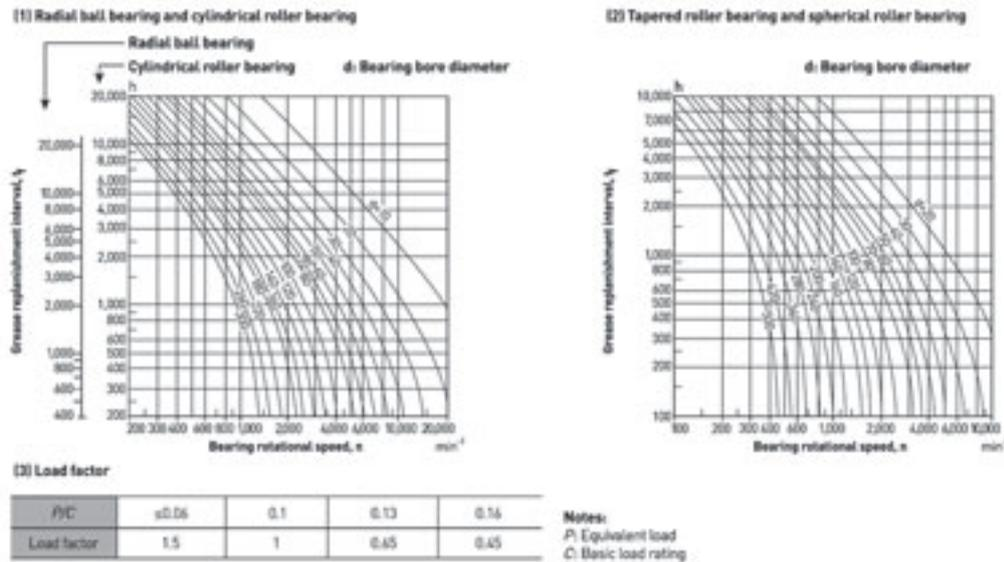

Fig. 1. Grease replenishment intervals \(click to enlarge\)
Over time, grease will deteriorate due to physical and chemical degradation. The reduced lubrication properties will negatively impact bearing performance. Efforts must be made to renew the grease through replenishment. Figure 1 below reflects the replenishment time intervals for various bearing types running at different speeds. Charts (1) and (2) in the figure are applied based on the use of high-quality lithium soap-mineral oil grease, a maximum bearing temperature of 70 C and a normal load ( $P/C = 0.1$ , meaning 10% of the bearing dynamic load rating  $C_r$ ). Replenishment is ONLY an option if the bearings are not sealed and provisions exist in the equipment for adding grease. Shielded bearings must be re-lubricated
Load factor is a determinant of lubrication replenishment in that it corresponds to the equivalent load (P) on the bearing shown in chart (3) of Fig. 1. The equivalent load *at the bearing* is determined from the radial and axial loads along with relationships detailed in the manufacturer's catalog for each bearing. For loads less than or equal to 6% of the bearing dynamic load rating (Cr), the replenishment interval increases by a 1.5 multiplier. As load increases, the load factor drops to less than one, which calls for more frequent lubrication. Should P/C exceed 0.16, it's advisable to consult the bearing manufacturer.